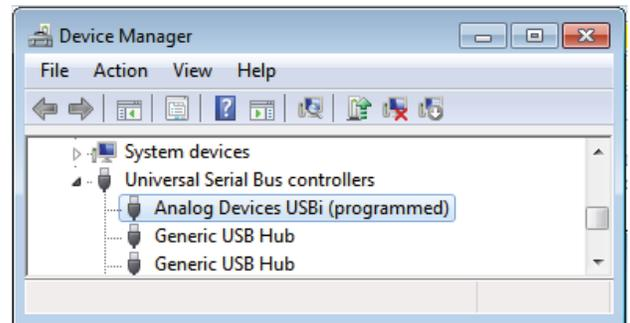

Figure 9. Confirming Driver Installation Using the **Device Manager**
- In the Windows **Device Manager**, under the **Universal Serial Bus controllers** section, check that **Analog Devices USBi (programmed)** appears as shown in Figure 9.